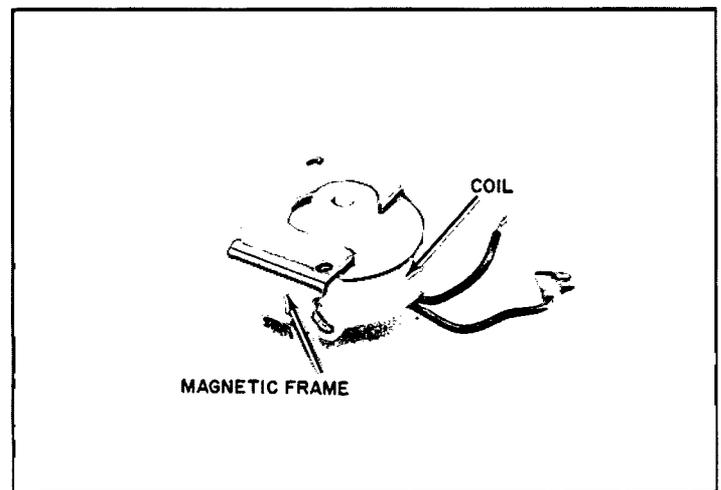

Figure 6.
4. Slide the coil out the right side of the magnetic frame as shown in Figure 6.